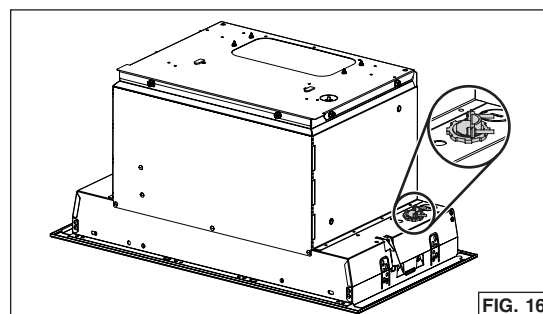

FIG. 16
4. Punch out **one** of the two knock-out holes. Install an appropriate 7/8" diameter strain relief (not included, grey part in FIG. 16).